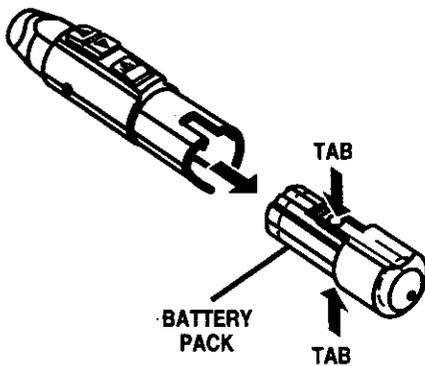

Fig. 3
- Remove battery pack from mini driver by depressing tabs located on battery pack then pull on battery pack in the direction of the arrow as shown in figure 3 to remove.